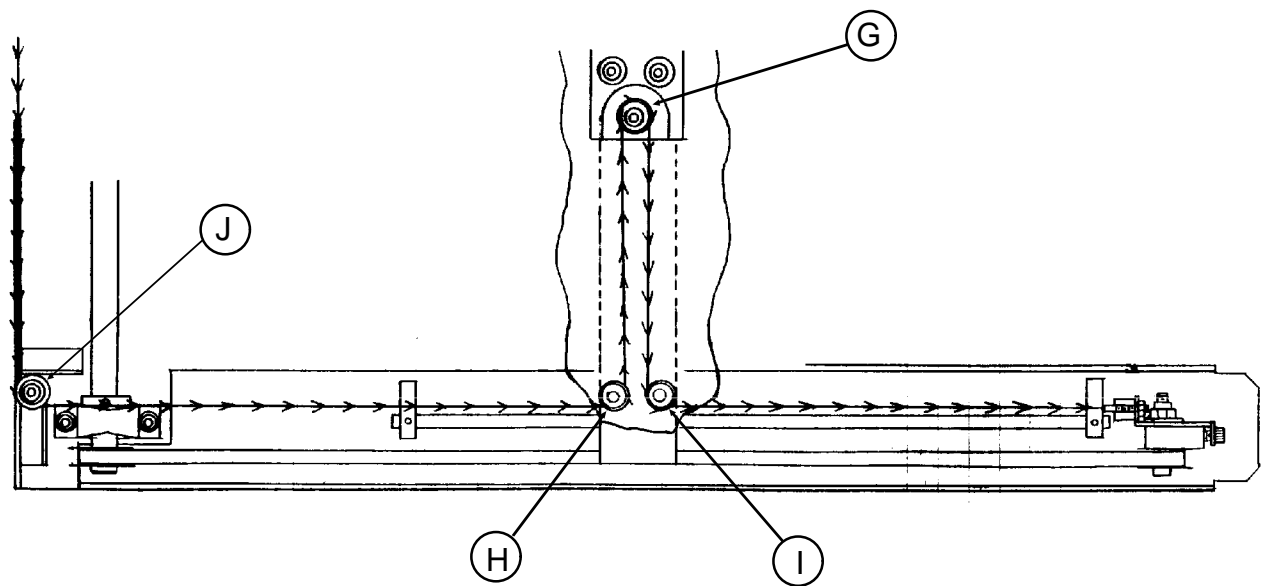

Figure 5
15. Form a small loop on the Cable, and slide the loop over the X Carriage Pulley (Figure 5-G).
16. While keeping a slight tension on the Cable (toward the front of the machine), lay it into the groove in the Rear Beam Pulley (Figure 5-H).
17. While continuing to keep a slight tension on the Cable, lay it in the groove of the Front Beam Pulley (Figure 5-I).
18. While continuing to keep a slight tension on the Cable, lay it in the groove of the Rear Corner Pulley (Figure 5-J).